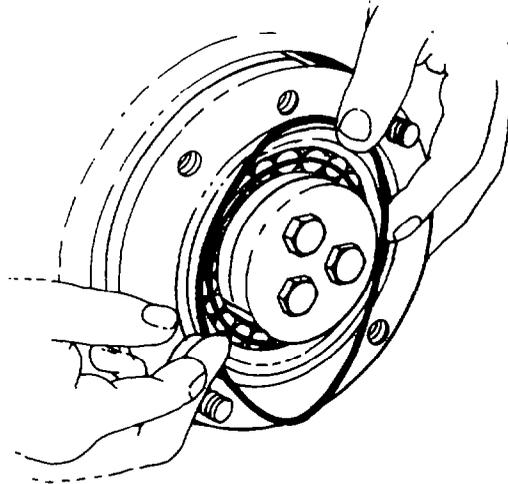

Fig. 341 — Installing O-ring
- b. Lightly oil the retainer gasket (O-ring) with engine oil and install the gasket into the groove provided in the retainer (see fig. 341).